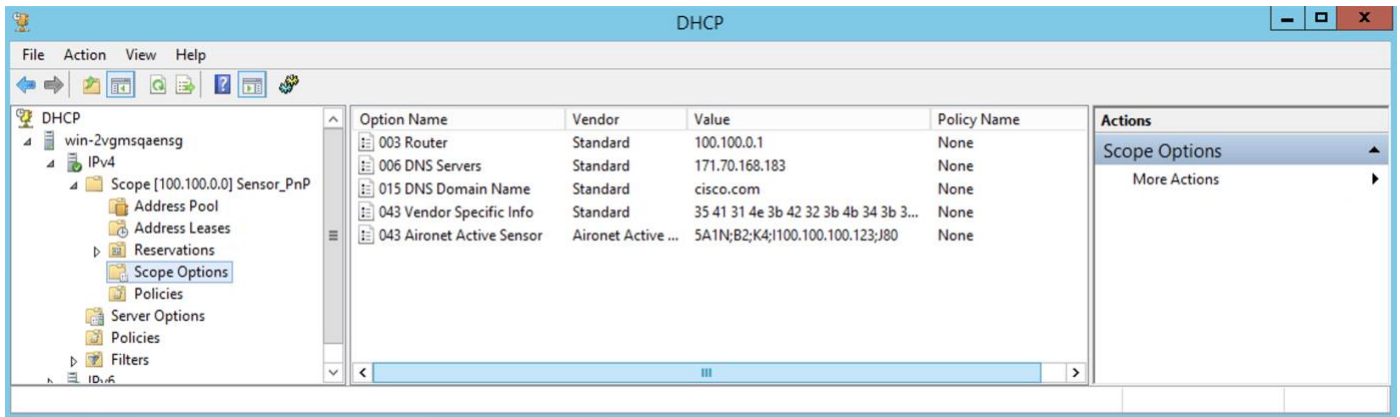

Figure 29.
- Within the **Scope Options** directory, and under the **Option Name** header, a custom option 43 field for the Aironet Active Sensor should've now appeared, and you've now completed configuring the conditional option 43 redirection through utilizing the device side VCI string (**Figure 29.**).